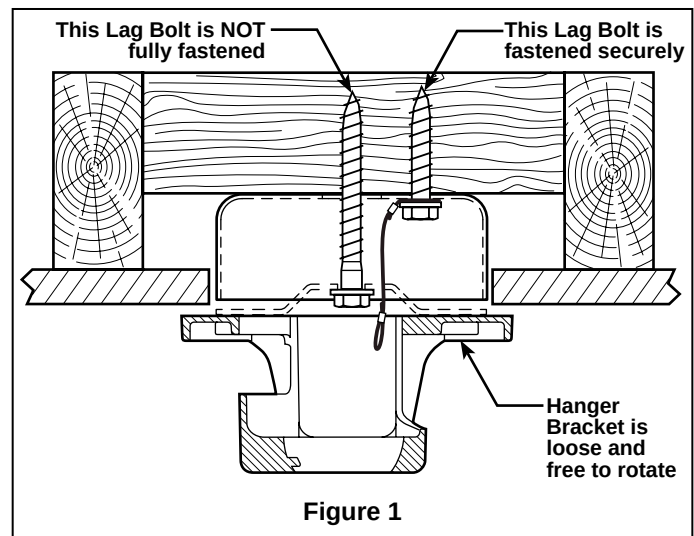

Figure 1
3. Separate and untwist the three motor leads and safety cable. Route the motor leads and safety cable through the bottom end of the extension pole as shown (Figure 1).
1. Attaching Ceiling Support Cable (Figure 1): Drill $\frac{1}{4}$ " pilot hole through one of the four corners of the junction box, into the ceiling joist or structural member. Securely attach the ceiling support cable with $\frac{3}{8}$ " x 2" lag bolt and flat washer.
NOTE: Ceiling support cable must be fastened between flat washer and junction box with 2" lag bolt (Figure 1).
2. Preliminary Hanger Bracket Attachment (Figure 1): Drill $\frac{1}{4}$ " pilot hole through the center of the junction box, into the ceiling joist or structural member. Loosely attach hanger bracket to the ceiling structure using $\frac{3}{8}$ " x 5" lag bolt and flat washer. **DO NOT FULLY TIGHTEN THE LAG BOLT YET!** Hanger Bracket should be free to rotate.
The fan must be hung with at least 7' of clearance from floor to blades (Figure 1)